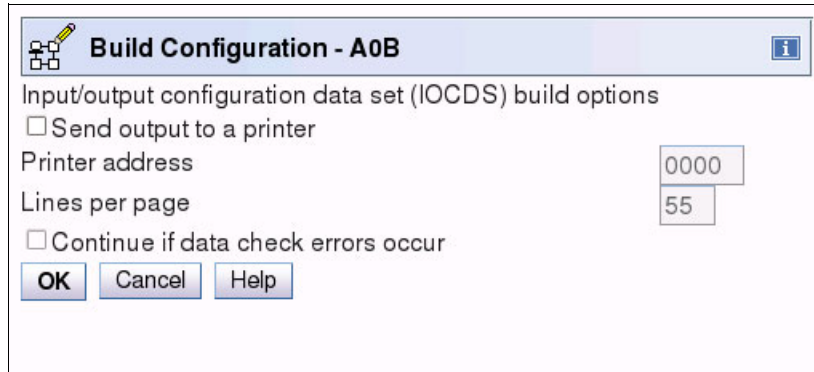

Figure 7-89 HMC - SAIOCP: build options
16. Select the build options you want and click **OK** (Figure 7-89).